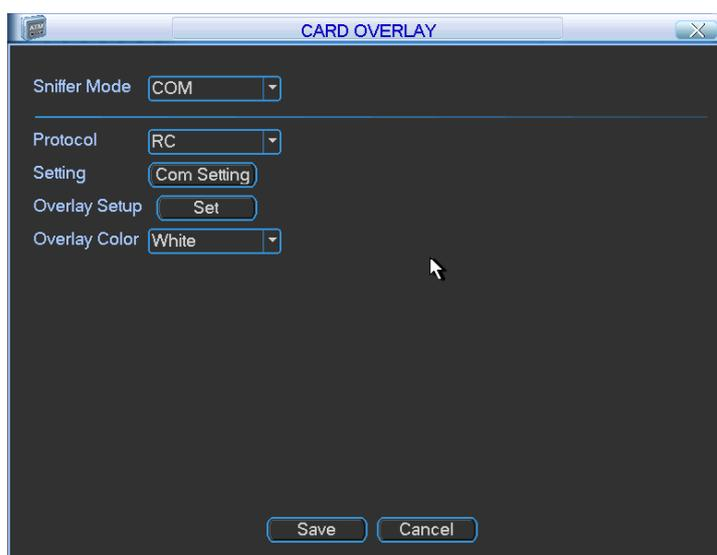
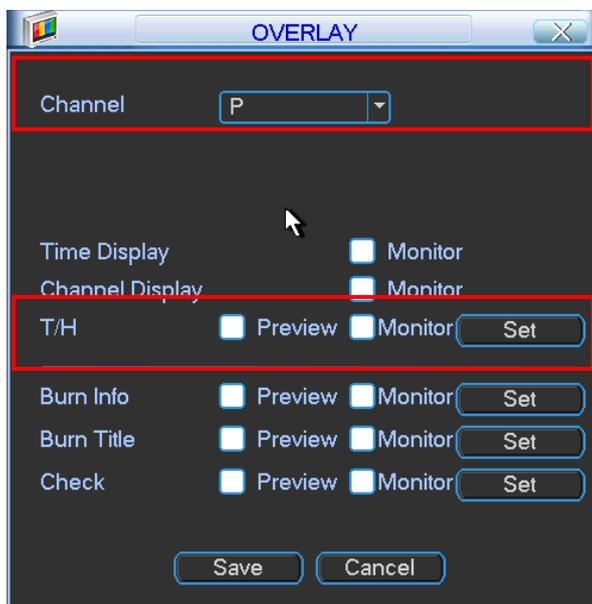

Figure 4-26
Figure 4-28
On the preview interface, right click mouse and then select main menu, from main menu->advanced->card overlay. The interface is shown as in Figure 4-26.
In Figure 4-26, select PIP channel from the dropdown list and then click overlay setup button, you can see the following interface. See Figure 4-28.
- In Figure 4-28, click Set button, you can set overlay position.
In Figure 4-26, select the PIP channel (channel P) to overlay temperature/humidity information. Click overlay setup button, you can see the following interface. See Figure 4-28. Check the preview or monitor mode and then click Save button.
- In Figure 4-28, click Set button, you can set overlay position. You need to select channel P (PIP) to overlay information.